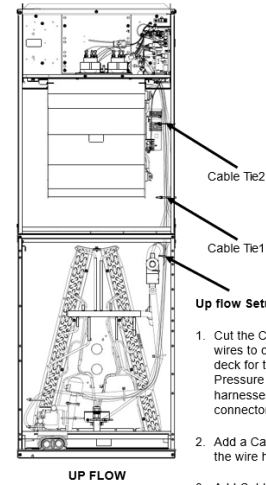

Figure 2-1
4. Follow Upflow setup wire Routing as mentioned in the Figure 2-1.